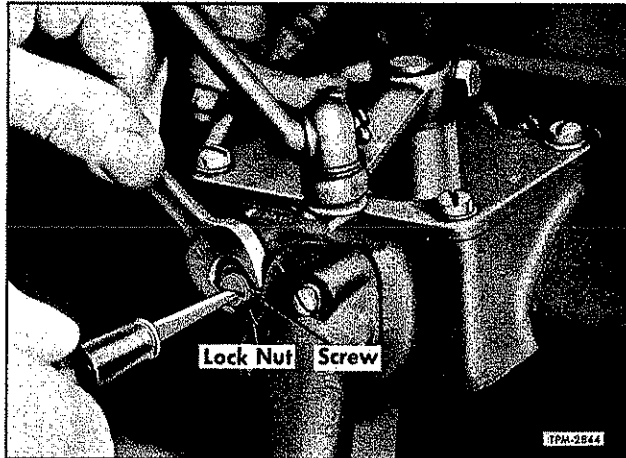

Figure 60—Buffer Spring Screw Adjustment
2. Loosen locknut and back out buffer screw (fig. 60) until it projects about $\frac{3}{8}$ " from the governor housing.
To adjust after the screw has been backed out as directed for the low speed adjustment, turn screw IN until engine idling speed, is increased slightly (not over 20 rpm), thus insuring spring contact with the differential lever (fig. 60).